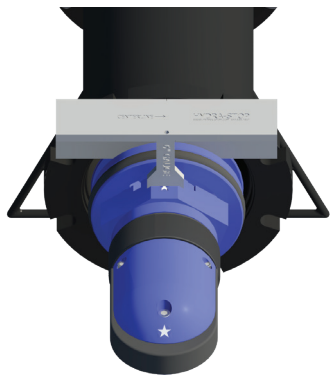

Figure 33
3.0.13) Set the curved portion of the alignment gauge within the lock pin groove of the valve cartridge. Slide the valve cartridge towards the insertion housing until the alignment gauge touches the insertion housing. The 2 gauge pins will seat in the top two holes of the insertion housing (see Figure 33 on next page).